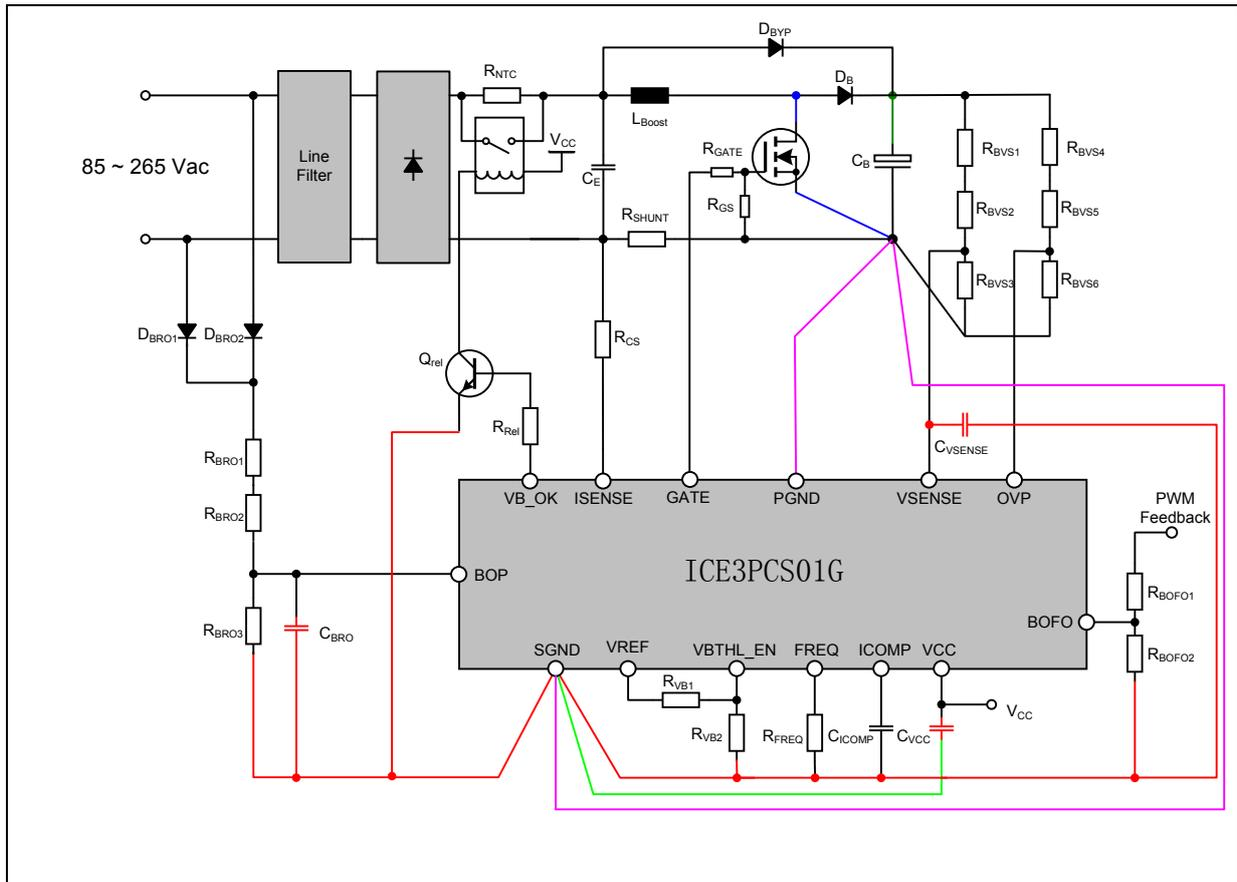

Figure 21 Good PCB layout illustration
In order to avoid crosstalk on the board between power and signal path, and to keep the IC GND pin as “clean” from noise as possible, the PCB layout for GND must be taken care of properly. Below are some suggestions for GND connections and together with Figure 21 below illustrates as a good example.
- (1) Star connection rules for main power stage GND: the PCB tracks of MOSFET source, output load PGND, SGND, IC auxiliary supply GND and shunt resistor are separated and connected together at bulk capacitor negative Pin.
- (2) Star connection rules for SGND: the IC external components which need to be connected to the SGND bus highlighted in red color. Such SGND bus is connected to IC SGND pin.
- (3) Connection between main power stage GND and IC GND: in Figure 21, the single PCB track in pink color directly connects IC GND pins to power stage star connection point - bulk capacitor negative. This is to ensure that the voltage between ISENSE pin and SGND pin does not observe the switching rectangular noise current. The dark green and blue tracks denote for flowing paths of high frequency rectangular switching current.
- (4) VCC decoupling capacitor  $C_{VCC}$ : the decoupling capacitor need to be placed close to IC VCC and GND pins as much as possible. The GND track of  $C_{VCC}$  (green color in Figure 21) should be connected at the point on the single PCB track connecting between IC SGND pin and PGND point so that the large gate charging current will not pass through the SGND bus.
- (5) VSENSE capacitor  $C_{VSENSE}$ : to reduce noise in VSENSE pin, small capacitor up to 0.01 $\mu$ F can be added between VSENSE pin and SGND bus.